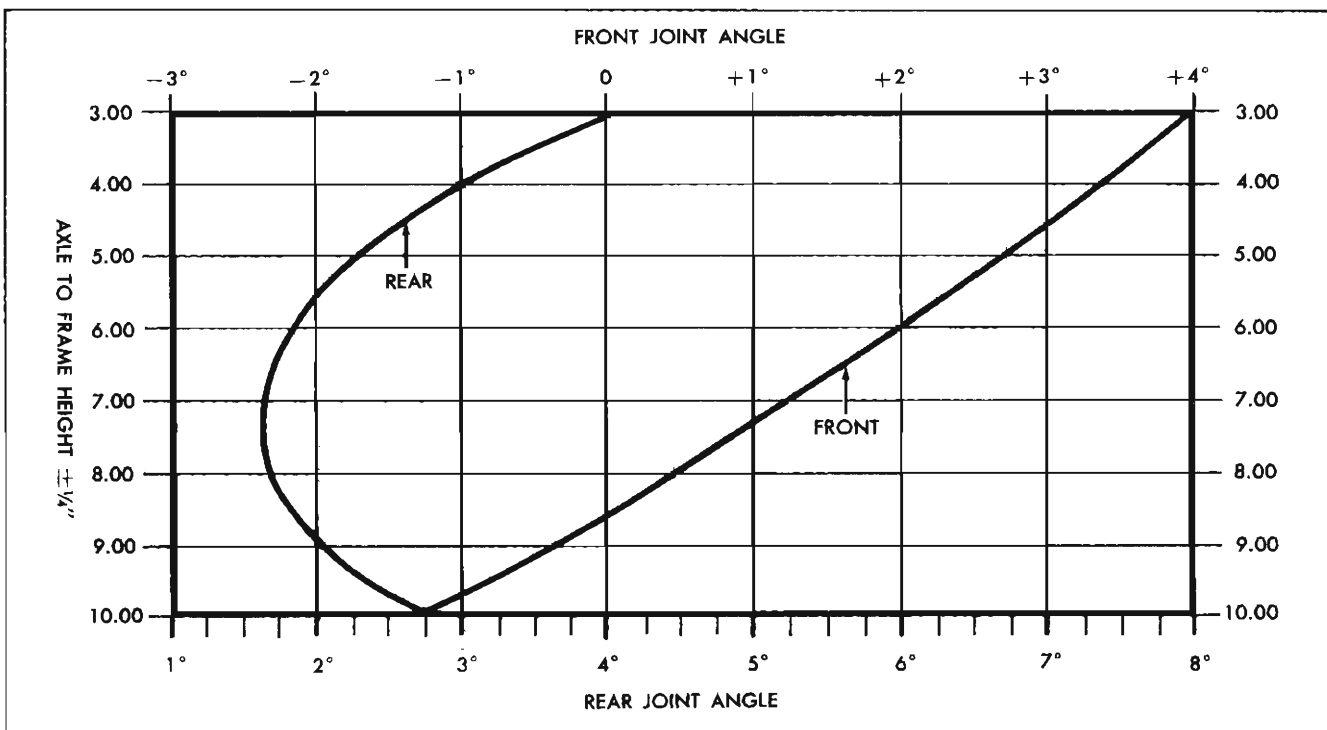

Fig. 55—Front and Rear Joint Angle Curve
7. Refer to the "Front and Rear Joint Angle Curve", Figure 55, and select the rear joint angle applicable to the axle to frame dimension recorded in Step 3.
8. If the rear joint angle is not the same ( $\pm 1/2^\circ$ ) as the angle shown on Figure 55, adjust pinion shaft as follows:
- c. Tighten control arm bracket nuts to specifications and recheck propeller shaft angle and pinion angle. Compare the sum of these two angles with Figure 55, as outlined in Step 7. Readjust if necessary. Check front joint angle as outlined in Step 9 and 10.
11. If the result obtained in Step 10 is not the same ( $\pm 1/2^\circ$ ) as the front joint angle shown on Figure 55, adjust by shimming at the transmission support or by bending the support.